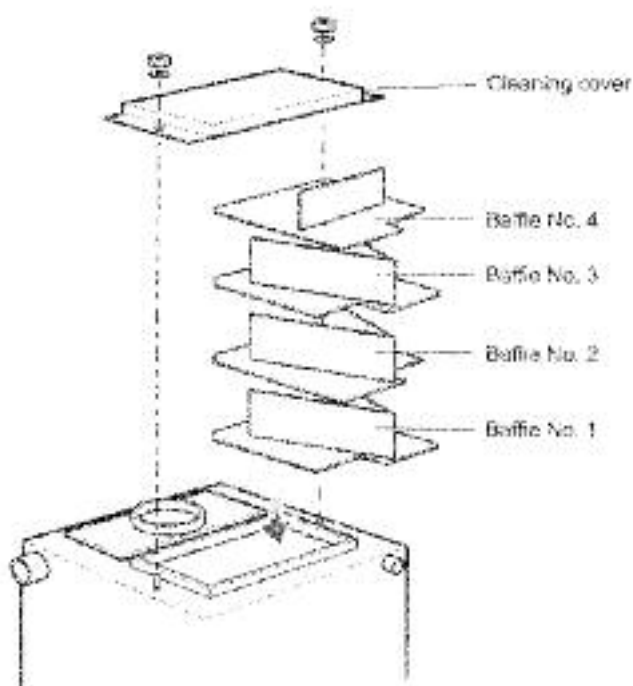

Fig 23 - 50/70 baffle positions
See Figs. 23, 24 or 25
- 2 Remove the baffles, noting their position (see Fig. 23, 24 or 25).
- 6 Replace the baffles, ensuring they are correctly fitted. See Fig. 23, 24 or 25..
50/90 - Baffle plate one is at the bottom, then two, then three and four at the top (see Fig. 23).